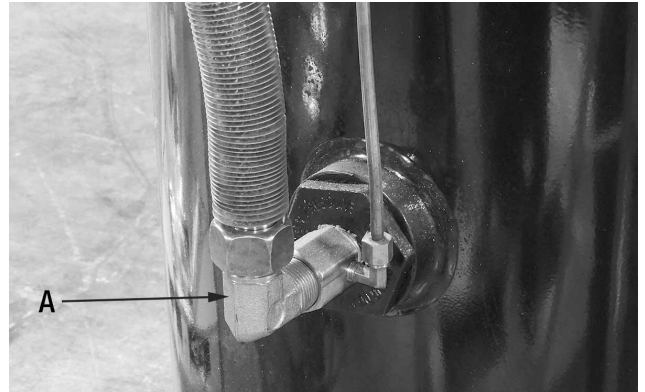

FIGURE 7
CHECK VALVE (A) FIG.7. When the air compressor is operating, the check valve is "open", allowing compressed air to enter the air tank. When the air compressor reaches its "Cut-Out" pressure, the check valve "closes", allowing air pressure to remain inside the air tank.